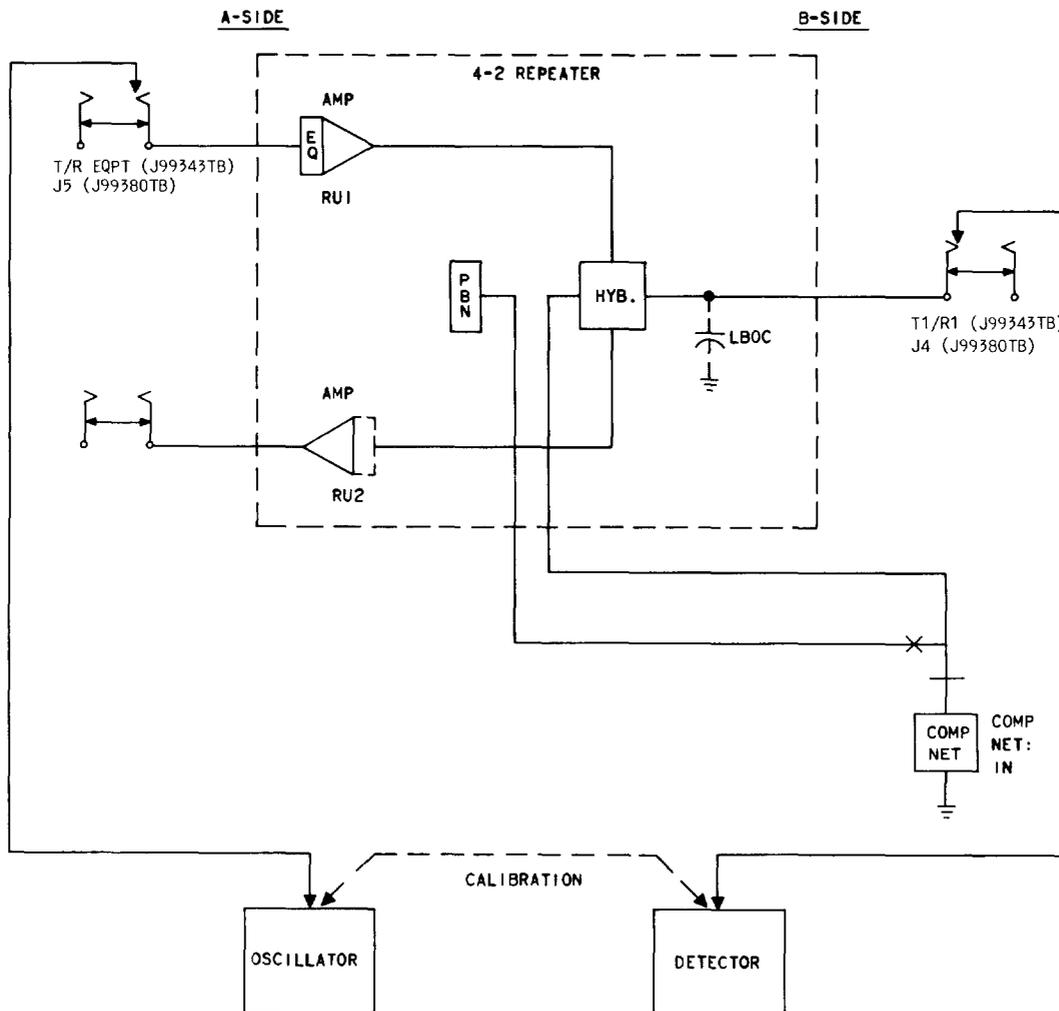
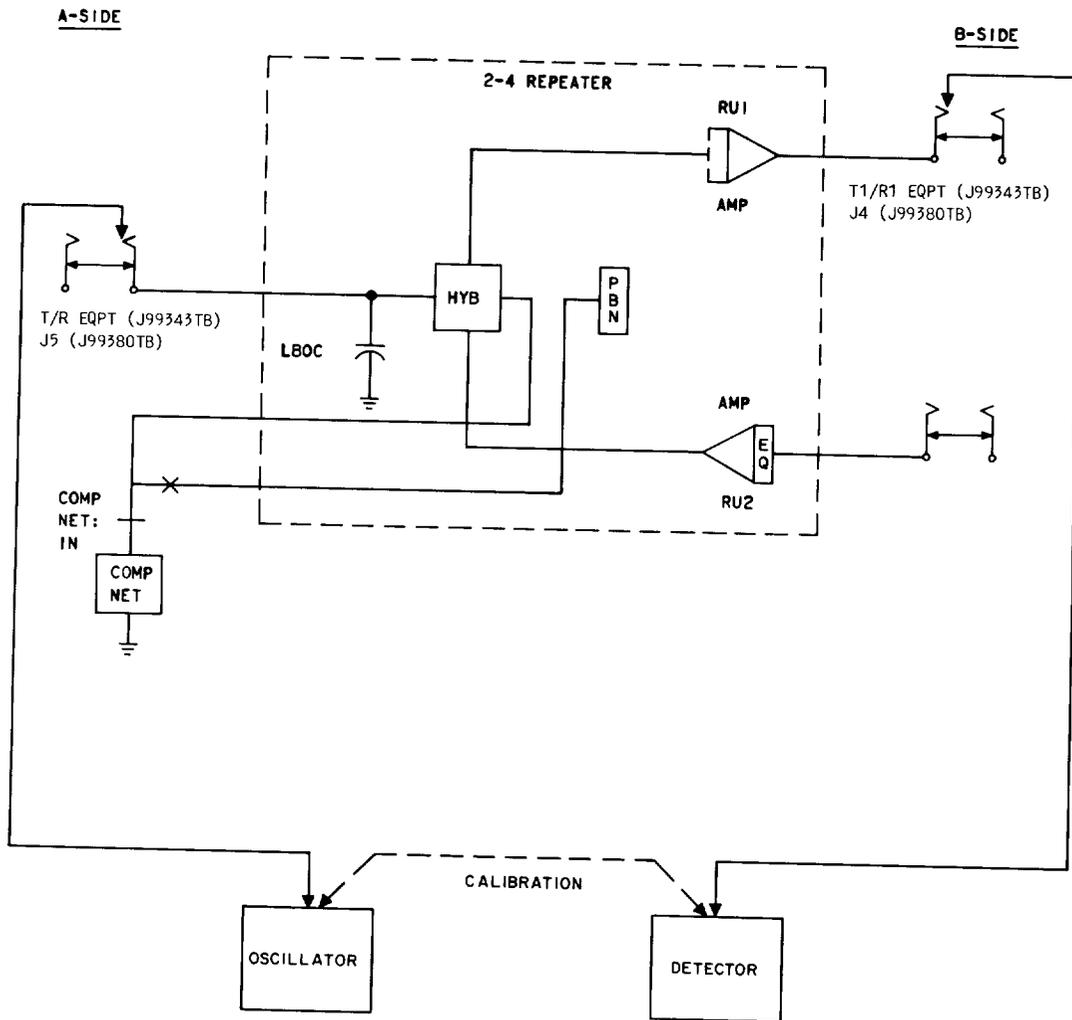

Fig. 15—Test Configuration for Adjusting the 4-2 Repeaters for a Specified Gain
Fig. 16—Test Configuration for Adjusting the 2-4 Repeaters for a Specified Gain
4.12 The test configuration for the 4-2 repeaters is shown in Fig. 15 and the configuration for the 2-4 repeaters is shown in Fig. 16.
6	Connect oscillator and detector to the test extender (refer to Fig. 15). Adjust repeater gain to measure 0 dBm on the detector. It may be necessary to operate a gain range (GN) switch to add -10 dB or +10 dB to the potentiometer gain in order to obtain the 0 dBm reading on the detector.